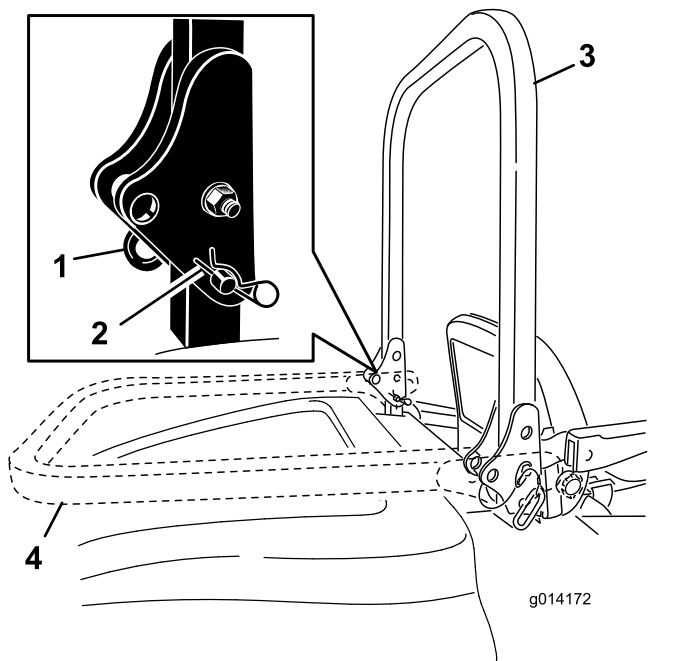

Figure 18
2. Remove the 2 hairpins and remove the 2 pins (Figure 18).
3. Raise the roll bar to the upright position (Figure 18).
4. Secure the roll bar with the 2 pins and 2 hairpins (Figure 18).
1. Remove the hairpins, push the roll bar forward against the springs, and remove the 2 pins (Figure 18).
2. Lower the roll bar to the down position (Figure 18).
3. Install the 2 pins into the pivot plates and secure the pins with the 2 hairpins (Figure 18).